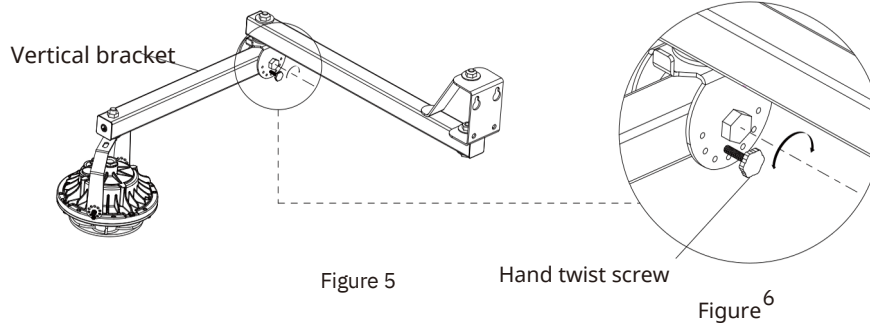

Figure 5
Step 1: Unscrew the hand twist screw from the fixture (Figure 5);